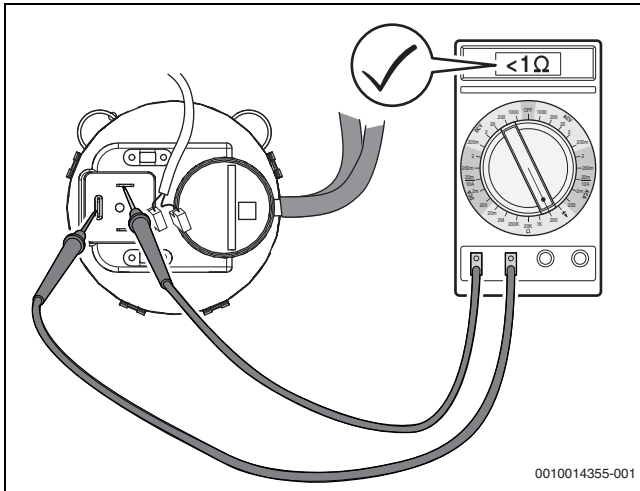
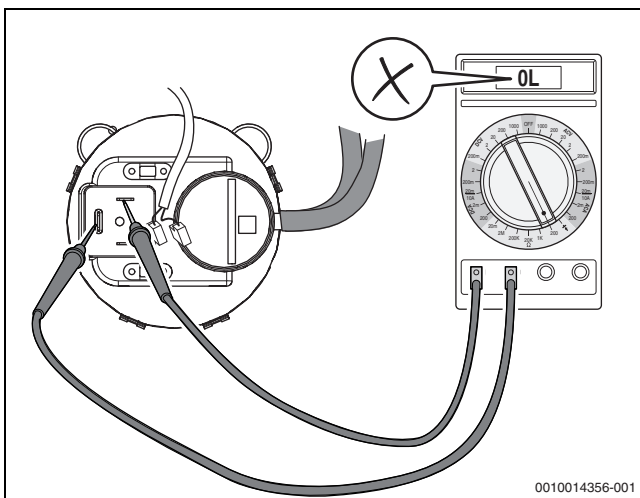

Fig. 68 Test the continuity of the differential pressure switch (differential pressure switch ok).
Fig. 69 Test the continuity of the differential pressure switch (differential pressure switch **not** ok).
- Pull off electrical connections at the differential pressure switch and measure the resistance across the contacts (→Fig. 68). If the value measured is  $< 1 \text{ ohm}$  (or signal tone, depending on measuring device), the differential pressure switch is ok. If no value, or a resistance of  $> 1 \text{ ohm}$ , is displayed (→ Fig. 69), replace the differential pressure switch.